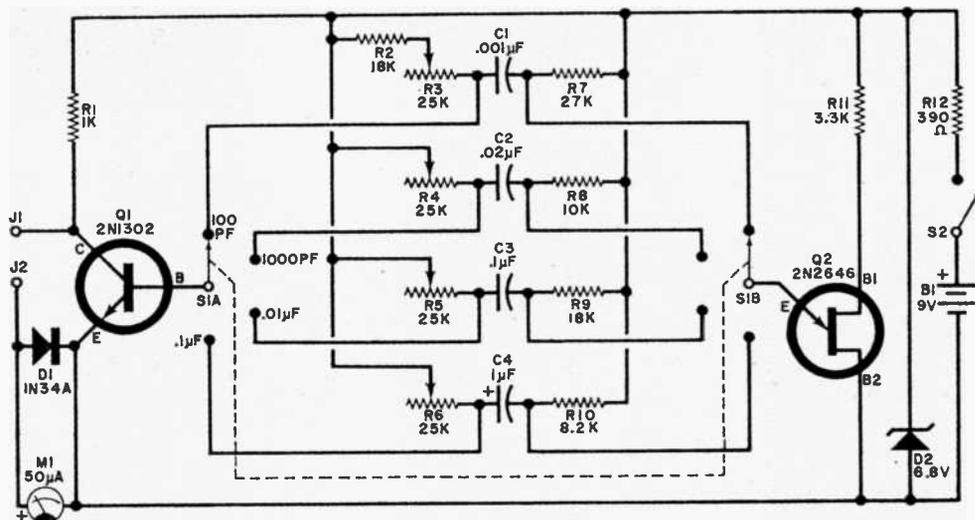

Fig. 1. Circuit consists of a basic multivibrator; for each of the four ranges, a different frequency-determining network can be switched in as required.
Referring to Fig. 4, orient the top of the chassis box as shown. Mount the parts in their respective cutouts, and wire *D1* into place. Set the circuit board beside the box top, and connect and solder insulated hookup wire from the junctions indicated by two component numbers (*C4/R6*, etc.) to "flea" clips along the bottom edge of the board. Then, complete the wiring, checking your work frequently with Fig. 1.
The operation of the Capacitance Meter (shown schematically in Fig. 1) is based on the principle that the maximum amount of a.c. current passed by a given capacitor is directly proportional to the capacitance value. In the case of the Capacitance Meter described in this article, the a.c. applied to the capacitor under test is in the form of a square wave provided by the Q1-Q2 multivibrator circuit.
**Construction.** The circuit for the Homesteader alarm is shown in Fig. 1. It can be assembled on the printed circuit board whose foil pattern is shown in Fig. 2. Once the board has been fabricated or purchased, install the components as shown in Fig. 3, taking care to observe the polarities of the electrolytic capacitors and semiconductors. Choose a suitable metal enclosure to house the alarm (about 4½" x 5½" x 2"). You should be able to mount it on a wall.
Fig. 1. Alarm system is equipped with fail-safe protection. You can eliminate battery B1 to allow a.c.-only operation. However, if line power fails, the alarm will not sound when an intruder trips an alarm switch.